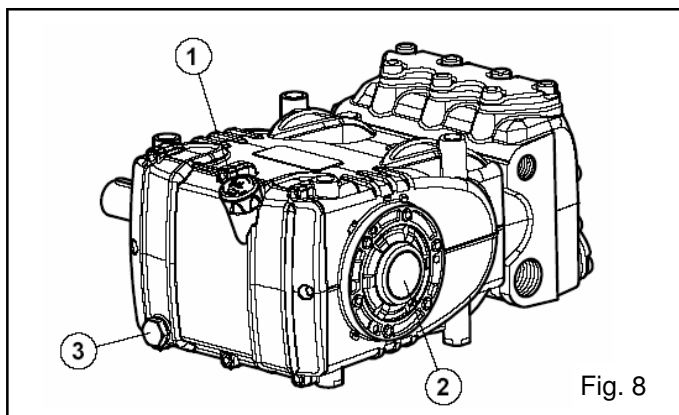

Fig. 8
Check oil level at least on a weekly basis Fig.8.
If necessary add the missing oil through the oil plug pos.1, Fig.8. Check oil level when the pump is at room temperature. When changing the oil (removing plug pos.3, Fig.8), the pump should be at its working temperature.